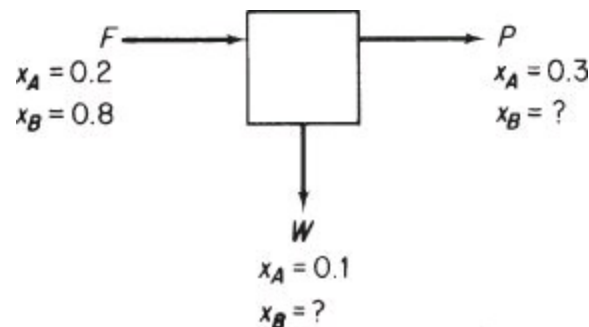

Figure P3.2.3
****3.2.3.** Examine the process in Figure P3.2.3. No chemical reaction takes place, and x stands for mole fraction. How many variables are unknown? How many are concentrations? Can this problem be solved uniquely for the unknowns?